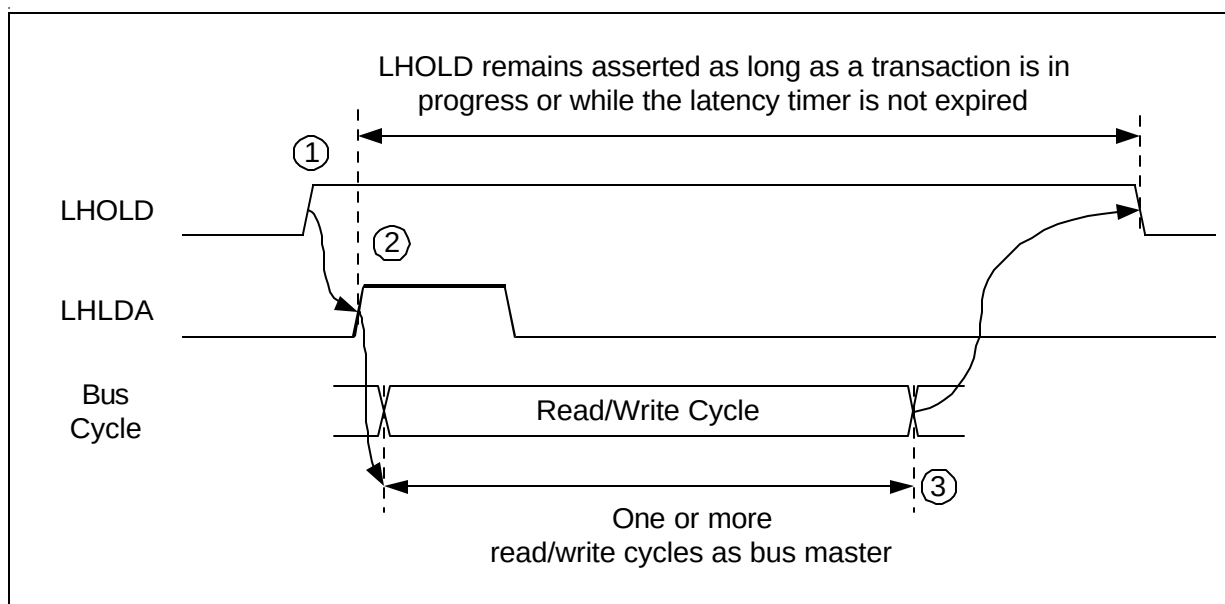

**Figure 5-6 Intel Bus Arbitration**
A read/write access from the PCI bus to the 16 bit demultiplexed local bus is initiated by accessing the PCI memory space base which is controlled by the base address register 2. Each valid read or write access to this base address triggers the local bus master interface which in turn starts arbitration for the local bus by asserting  $\overline{\text{LHOLD}}$  (see (1) in **Figure5-6**). As soon as the MUNICH256 gets access to the local bus ( $\overline{\text{LHLDA}}$  asserted) it starts the local bus latency timer and begins a read/write transaction as the bus master. The signal  $\overline{\text{LHOLD}}$  remains asserted while a transaction is in progress or as long as the local bus latency timer is not expired. A read/write transaction begins when the MUNICH256 places a valid address on the address bus, sets the  $\overline{\text{LBHE}}$  signal which indicates a 8- or 16-bit bus access and asserts the chip select signals  $\overline{\text{LCS1}}$  and/or  $\overline{\text{LCS2}}$ . Then the MUNICH256 activates the respective command signals ( $\overline{\text{LRD}}$ ,  $\overline{\text{LWR}}$ ). Data is driven onto the data bus either by the MUNICH256 (for write cycles) or by the accessed device (for read cycles).